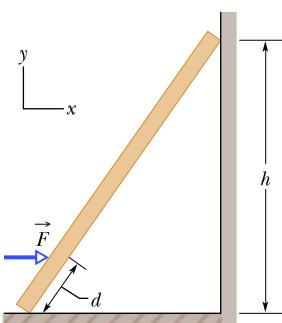

Figure 12.64 Problem 73.
- 73 SSM** A uniform ladder is 10 m long and weighs 200 N. In Fig. 12.64, the ladder leans against a vertical, frictionless wall at height  $h = 8.0 \text{ m}$  above the ground. A horizontal force  $\vec{F}$  is applied to the ladder at distance  $d = 2.0 \text{ m}$  from its base (measured along the ladder). (a) If force magnitude  $F = 50 \text{ N}$ , what is the force of the ground on the ladder, in unit-vector notation? (b) If  $F = 150 \text{ N}$ , what is the force of the ground on the ladder, also in unit-vector notation? (c) Suppose the coefficient of static friction between the ladder and the ground is 0.38; for what minimum value of the force magnitude  $F$  will the base of the ladder just barely start to move toward the wall?